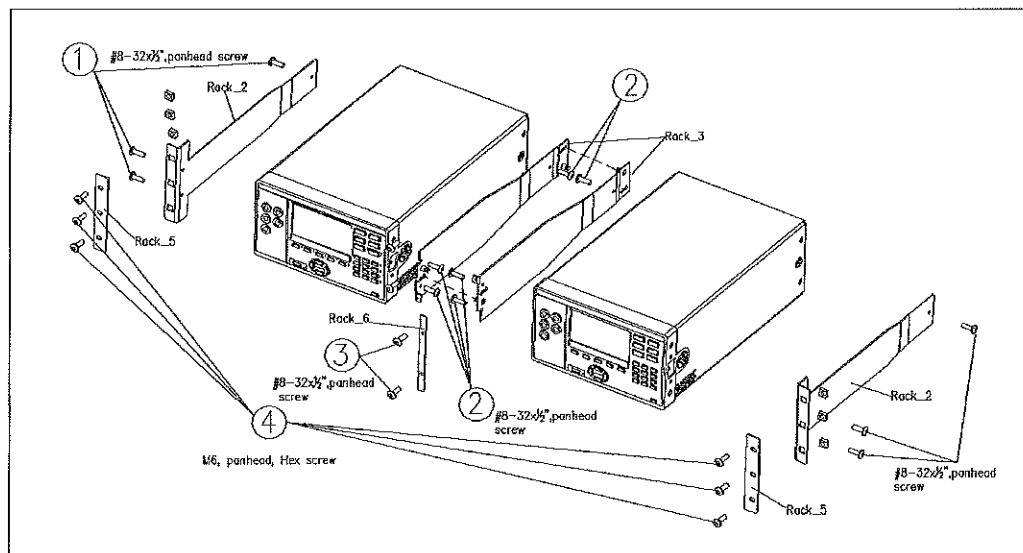

Figure 3
1. using three #8-32x ½” panhead screws to attach the Rack_2 on the left front side of the second Meter as shown in Figure 3.
4. Install the assembled rack mount kit in the rack using the six M6 screws with two Rack_5 under the screws as shown in Figure 3 .